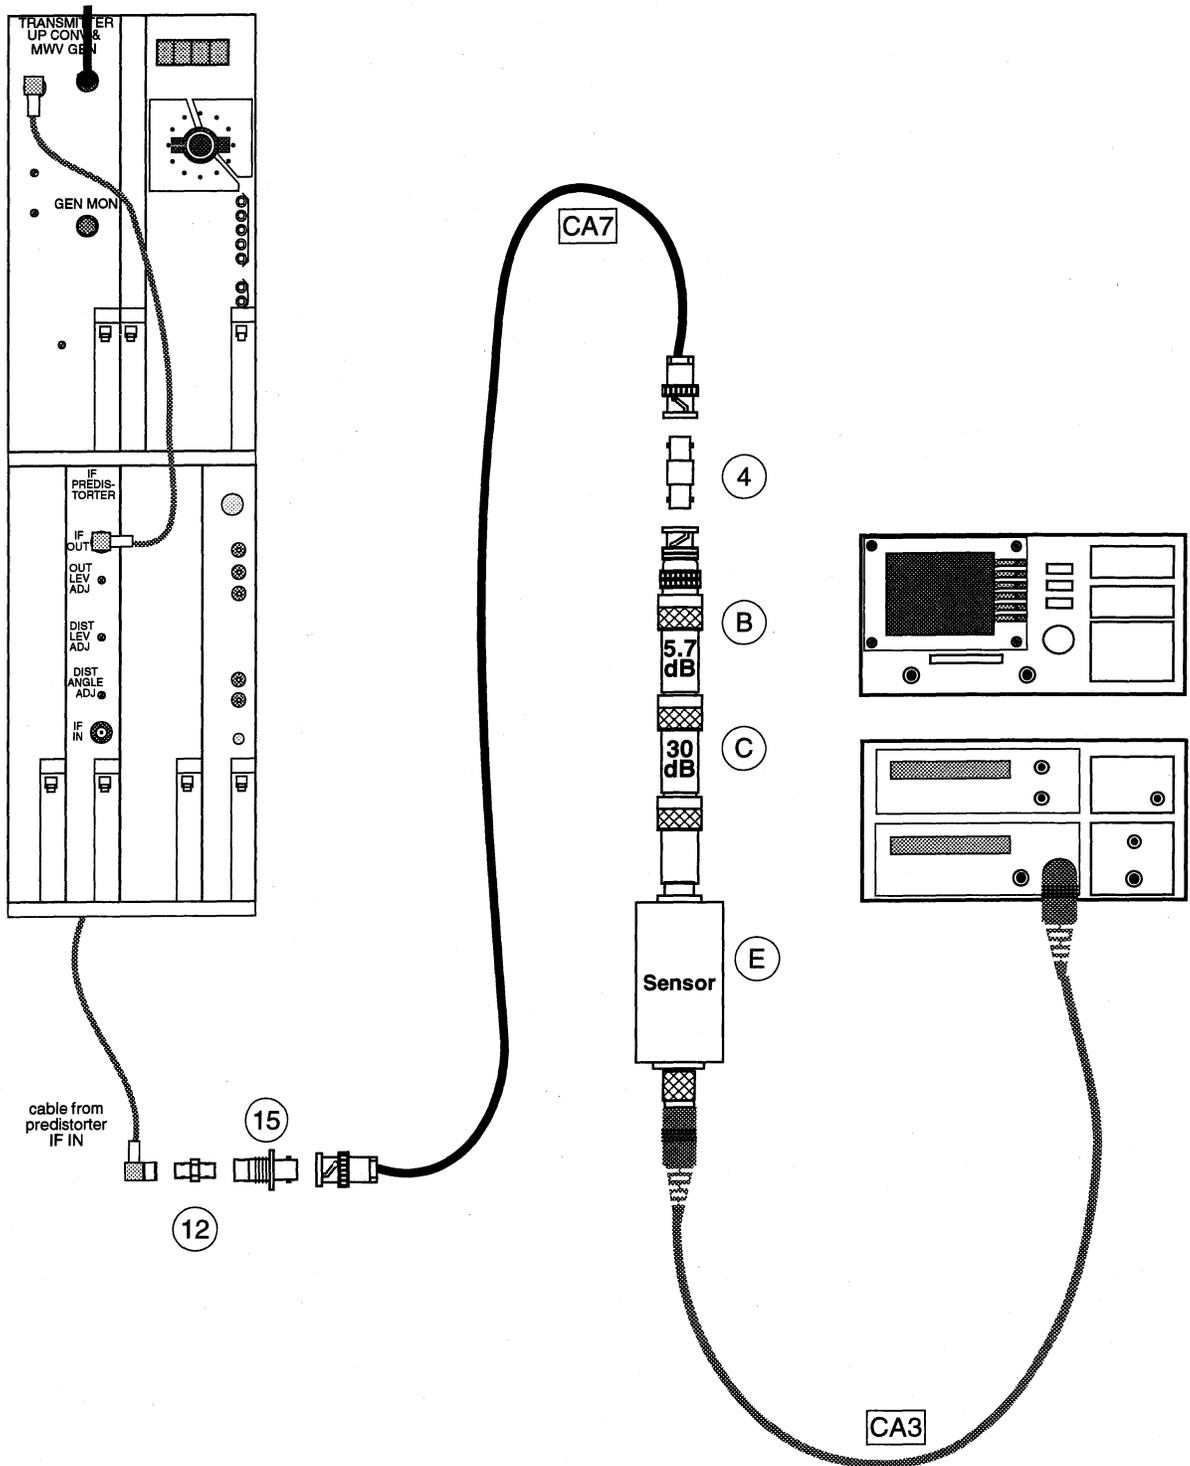

Figure 3. IF Predistorter Input Level Check
- 4 Connect the test equipment as shown in Figure 3.